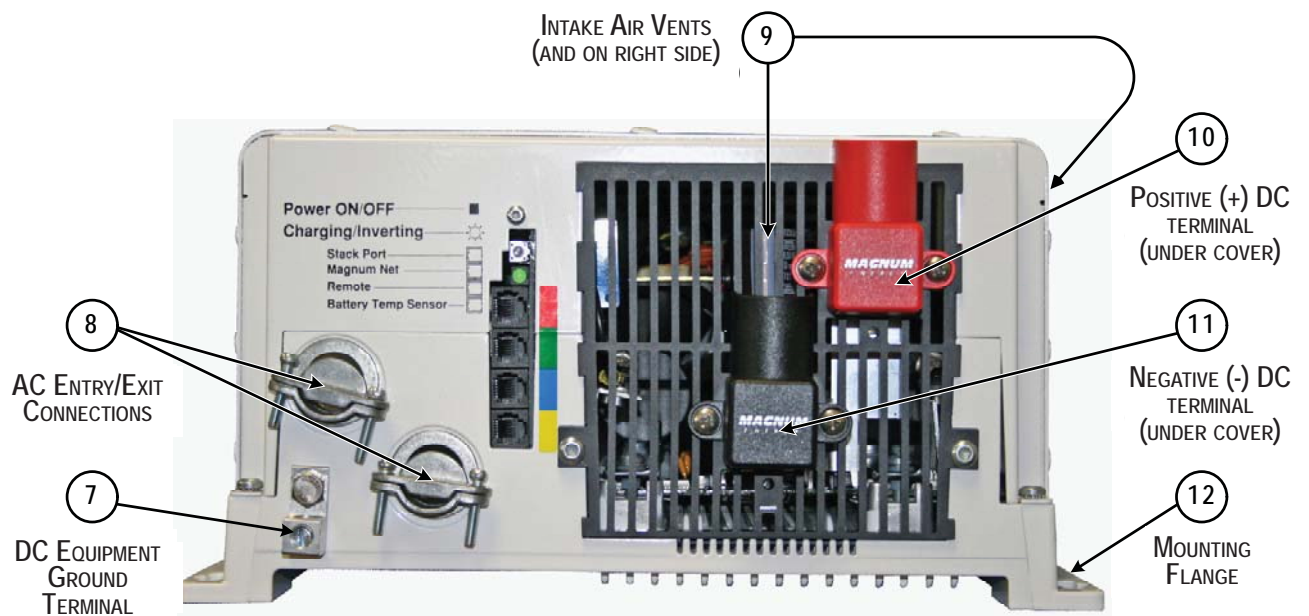

Figure 1-2, Electrical Connection Points
**Ventilation** - In order for the inverter to provide full output power and avoid over temperature fault conditions; do not cover or block the inverters ventilation openings or install this inverter in an area with limited airflow. The inverter uses two fans to provide forced air cooling, these fans pull in air through the intake vents (see item 9 in figure 1-2) and blow out air through the exhaust vents (see item 13 in figure 1-3). Allow at the minimum, an airspace clearance of 6" at the intake and exhaust vents and 3" everywhere else to provide adequate ventilation.